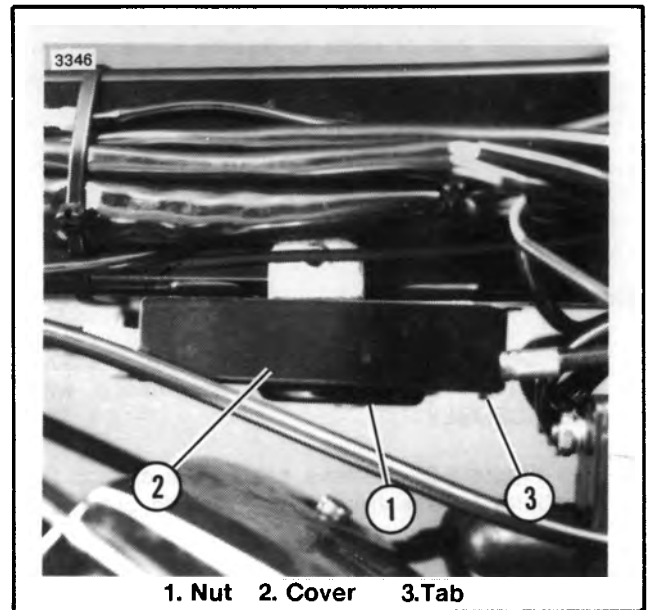

Figure 8-37. Cable Control Assembly Cover
1. See Figure 8-37. Remove nut (1) and throttle cable control assembly cover (2). Note that throttle bracket tab extends through slot in cover at (3).